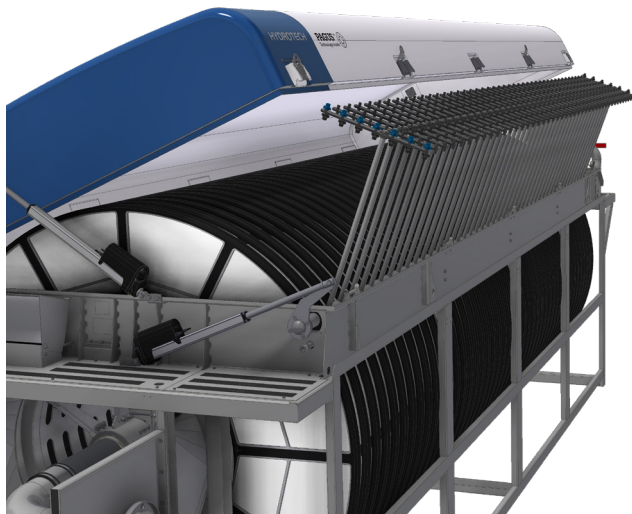

Figure 7.2 Filter with the spraybar ramp extended
3. Extend the backwash ramp (see Figure 7.2).